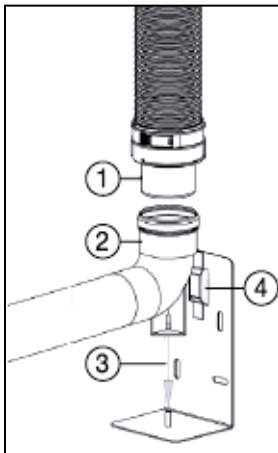
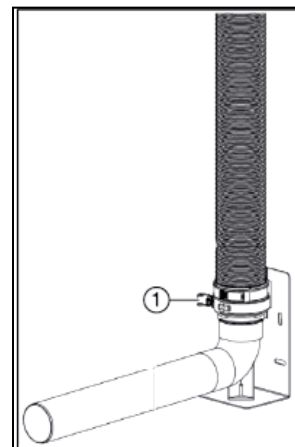

Figure 7 – Installation of Support Elbow
Figure 8 – Securing the Support Elbow
11. After installing the required length of liner, remove the mounting aid by rotating $\frac{1}{4}$ turn counterclockwise (-). Then attach the rigid-flex adapter into the support bend. See Fig. 7.
a. Position the support elbow on the support bracket (see 2 and 3, Fig. 7).
b. Secure the support elbow with the clamp (see 1, Fig. 8) around the flex-rigid adaptor (see 1, Fig. 7) and through the slot of the support console (see 4, Fig. 7).